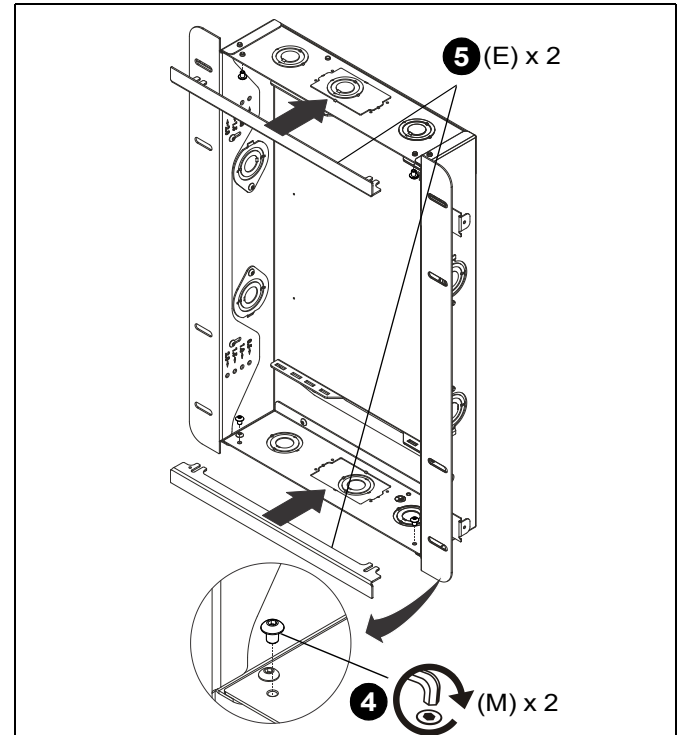

Figure 12
4. Loosely install four #10-24 x 1/4" button head cap screws (M) into open holes in each corner of boxes. (See Figure 12)
5. Slide two top/bottom flanges (E) under screws installed in Step 11 at top and bottom of each box. (See Figure 12)